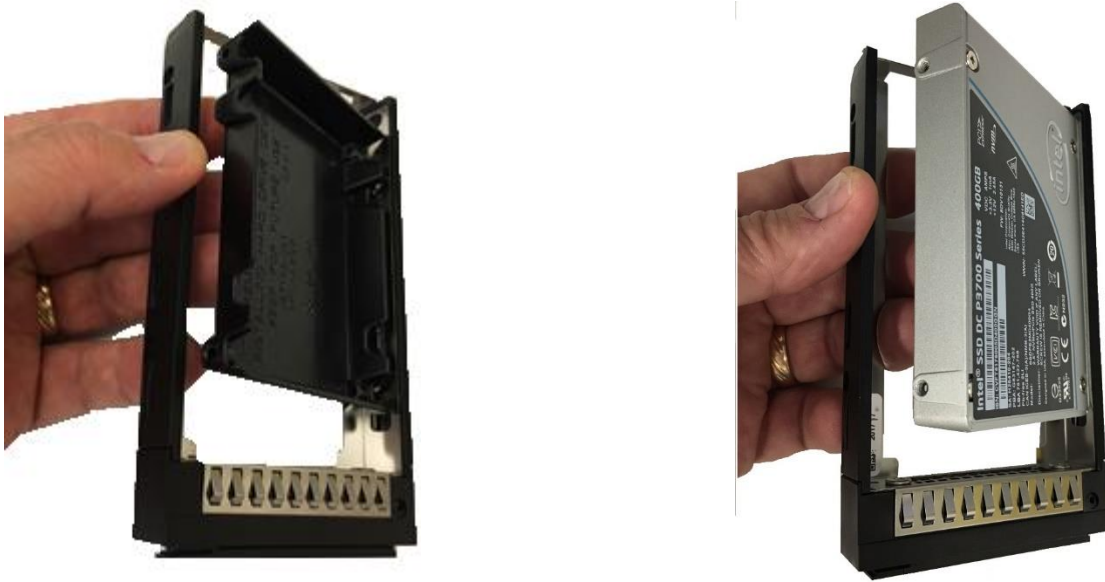

Figure 20. 2.5" drive carrier assembly – drive/drive blank removal
1. Remove the drive or drive blank from the carrier by gently rotating the top edge of a carrier rail outwards while at the same time pushing the drive or drive blank up from the bottom (as shown in Figure 20).